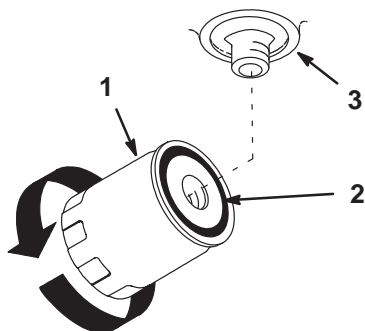

Figure 42
4. Apply a thin coat hydro fluid to the rubber gasket on the replacement filter (Fig. 42).
7. Turn the oil filter clockwise until the rubber gasket contacts the filter adapter, then tighten the filter an additional 1/2 turn (Fig. 42).